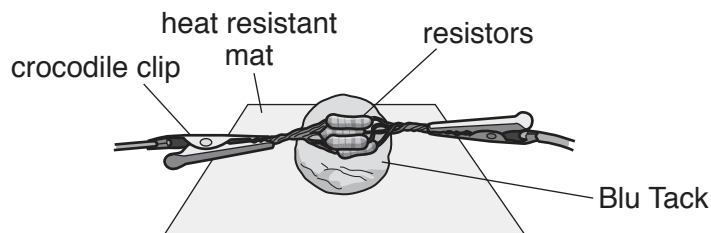

Fig. 4.1
2. Five resistors of resistance  $22\ \Omega$  5% 2W (e.g. RS 707-8808) should be twisted together and pressed into a piece of Blu Tack (approximately 10g). The resistors should have a tolerance of 5% and a power rating of 2W. Crocodile clips should be attached to the resistor wires as shown in Fig. 4.1. The resistors will act as a heater when the circuit is complete so the Blu Tack must be placed on a heat resistant mat.